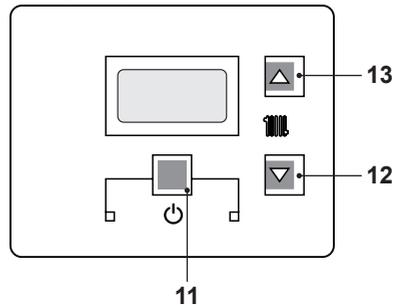

Fig. 7.5
- Press the 11 key for 2 seconds until both  symbols appear on the display (Fig. 7.5).
- Switch off the boiler by pressing the 11 (Fig. 7.5) key for 2 seconds until the   symbol appears on the LCD display (Fig. 7.4).